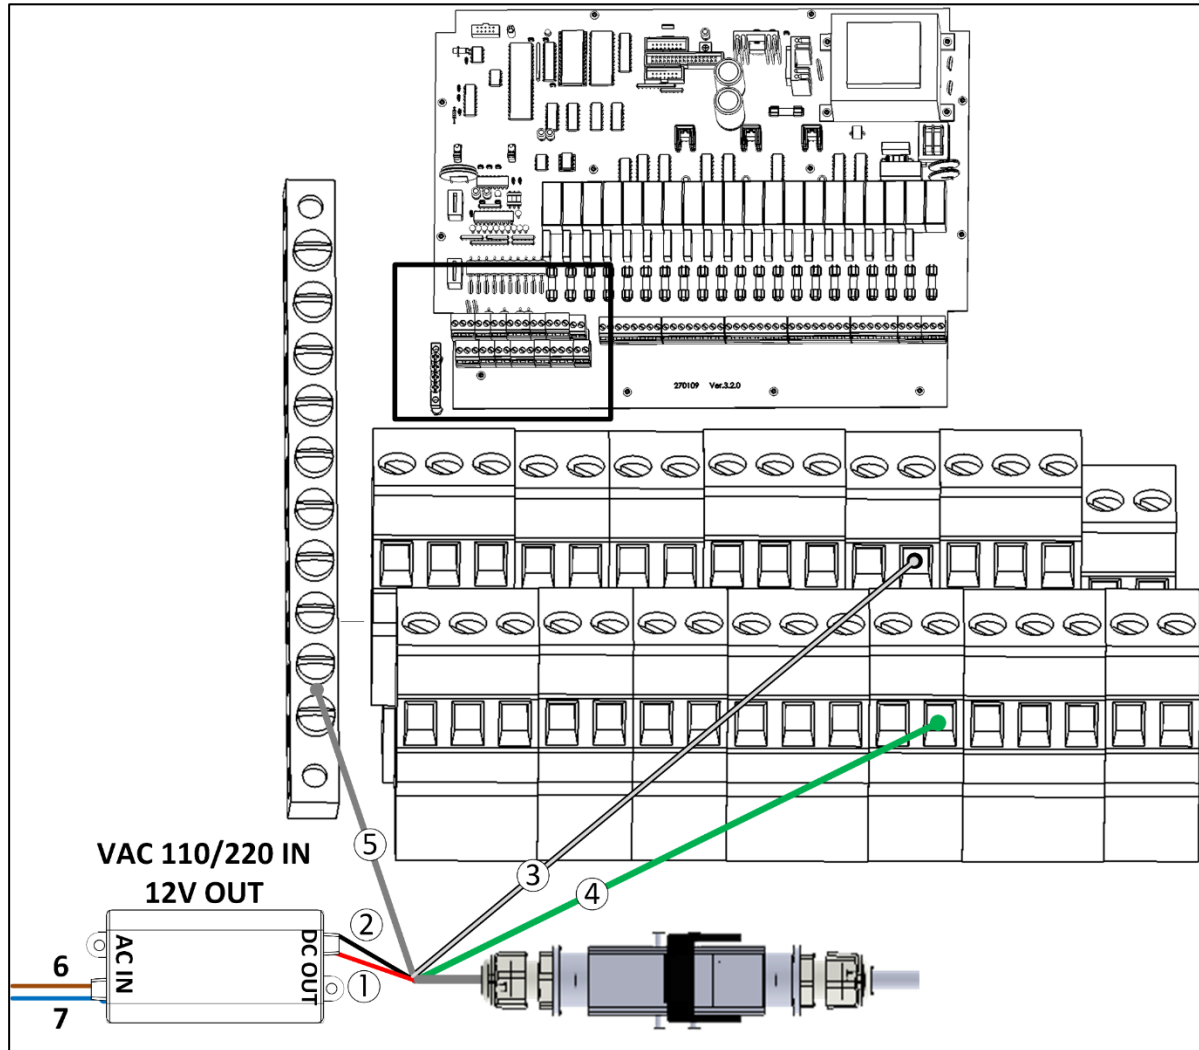

Figure 13: AC-2000 Power Supply Wiring
1. Attach the other end of the sensor cable to the power supply and AC-2000 board (port 13 or 14). See Figure 13.